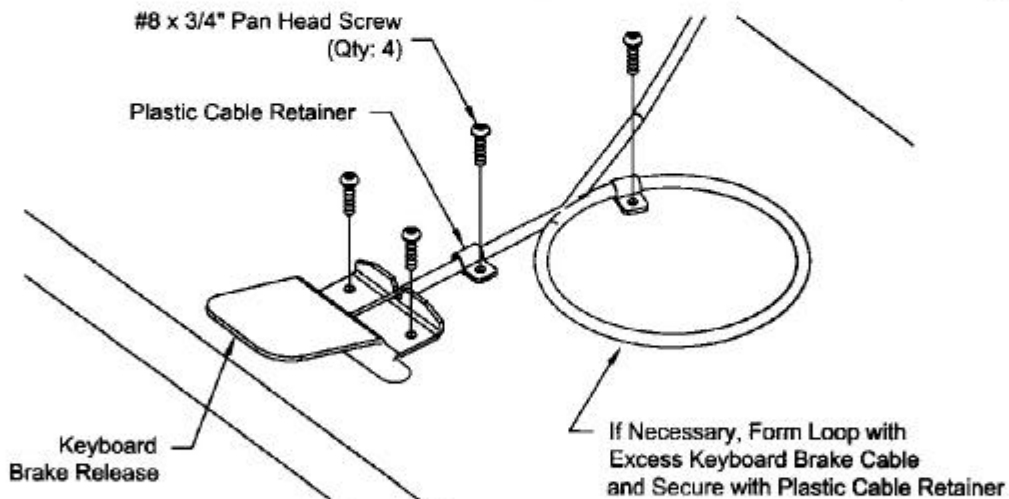

FIGURE 2
2. Mount keyboard arm to keyboard surface aligning holes using (2) #12 x 1 1/8" pan head screws on each side.
3. Insert keyboard brake release in slot on the right hand side of the keyboard top. Secure with (2) #8 x 3/4" pan head screws. (See Figure 2).
4. Place (1) plastic cable retainer on cable, approximately 1" behind release handle and secure with (1) #8 x 3/4" pan head screw.
5. If necessary, form a loop with excess cable from keyboard brake release and secure with plastic cable retainer and (1) #8 x 3/4" pan head screw. (See Figure 2).